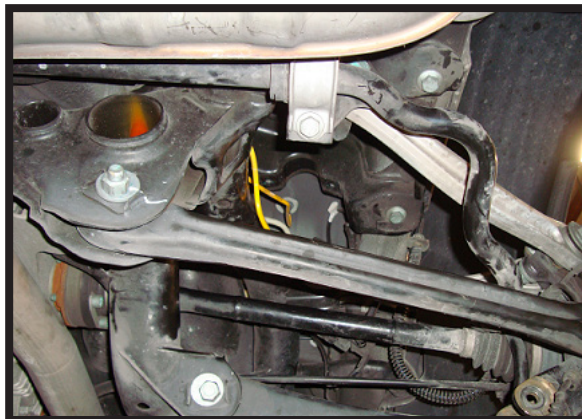

FIGURA 10-5
8. RIMUOVERE L'AMMORTIZZATORE AD ARIA DAL VEICOLO. (FIGURA 10-5)